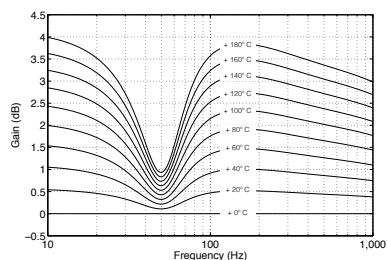

Figure 20.5: Magnitude responses of the compensating filter for BeoLab 90’s front woofer vs. the temperature of its voice coil.
make a filter that “undoes” the effect of temperature on the loudspeaker’s response. For example, if the woofer’s voice coil gets 160°C above room temperature (where we originally measured it), it drops 3.2 dB at 20 Hz, the BeoLab 90 knows this and adds 3.2 dB at 20 Hz. In order to do this, the processing of the BeoLab 90 includes a set of filters (one for each driver) whose response varies in time with the temperatures of the the drivers. The temperature-dependent filters for the front woofer are shown in Figure 20.5.
- This particular filter shown in Figure 20.5 should only be